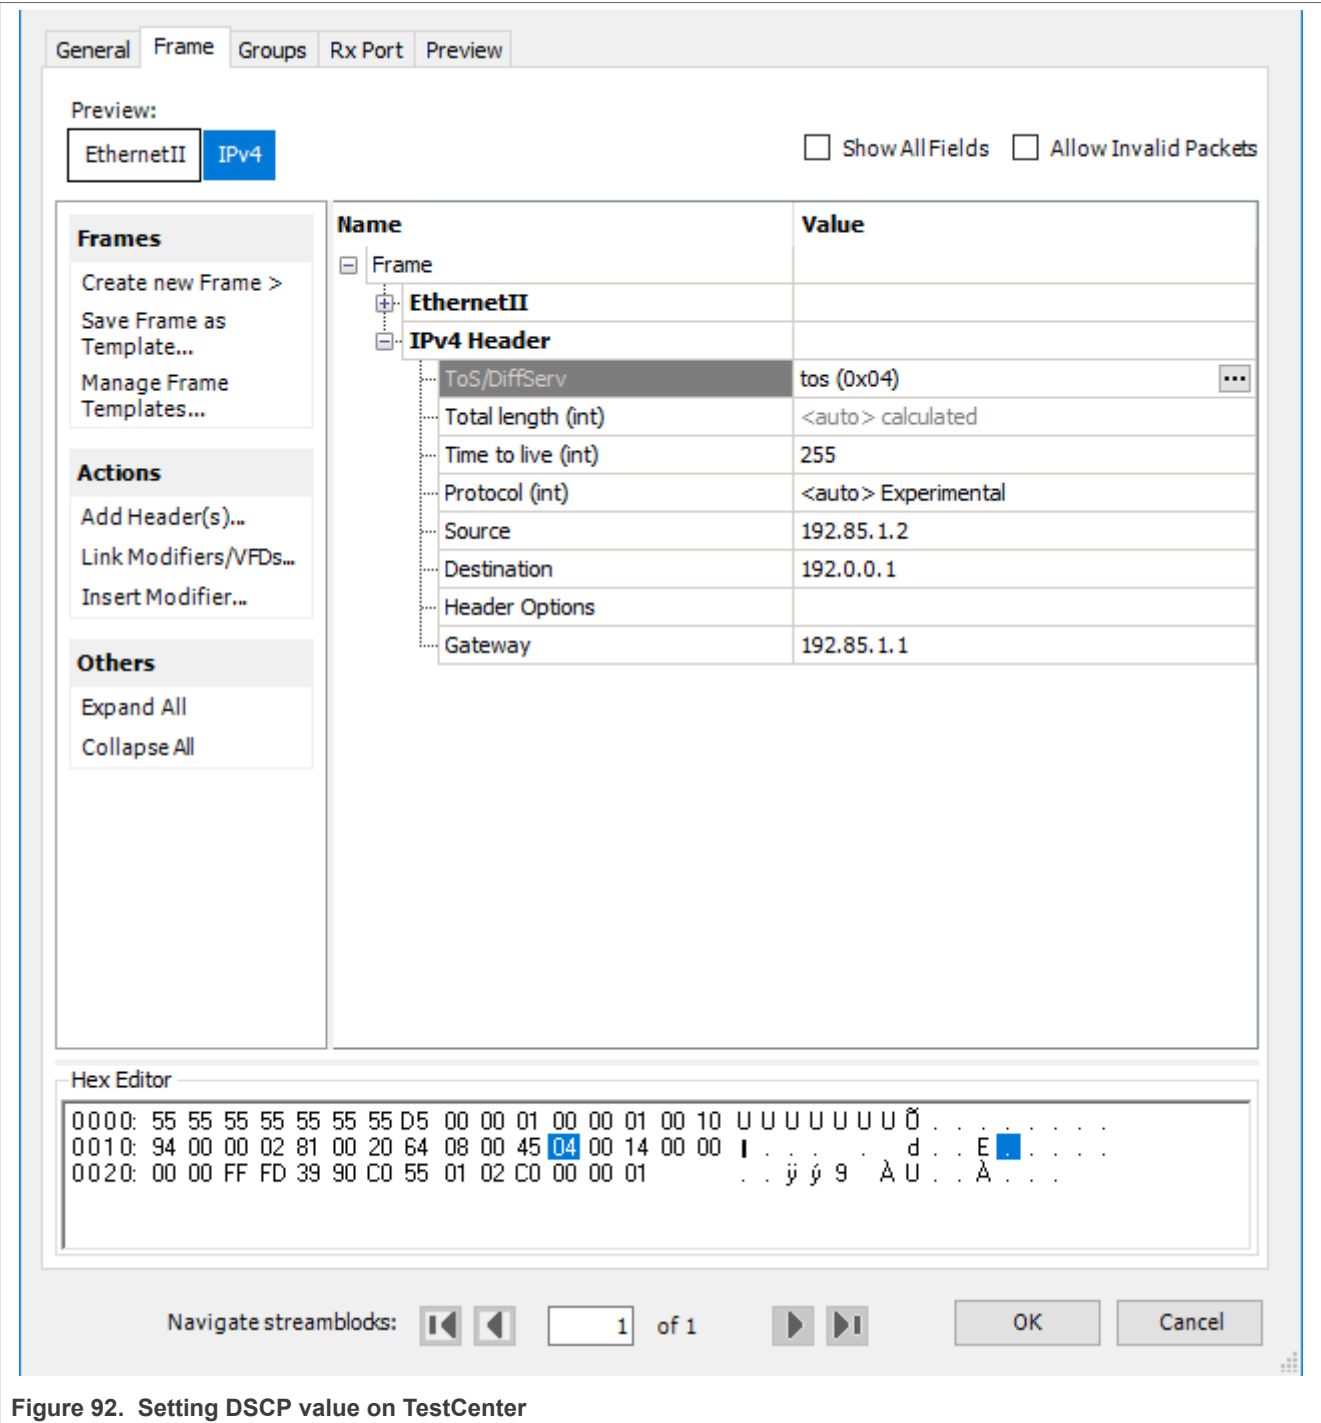

Figure 92. Setting DSCP value on TestCenter
2. Set the DSCP value on TestCenter. DSCP value is the upper six bits of ToS in IP header, set the DSCP value on TestCenter as shown in Figure 92.